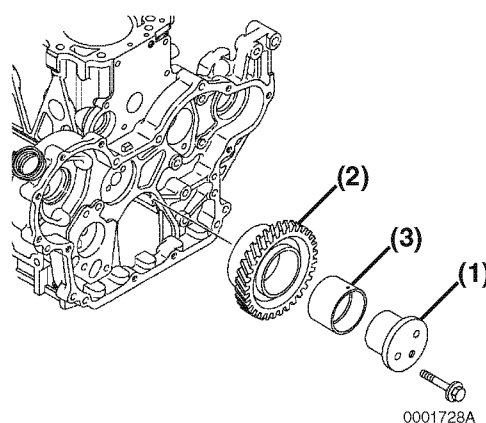

Figure 6-42
- Remove the bolts from the idler gear shaft. Remove the idler gear shaft (**Figure 6-42, (1)**), idler gear (**Figure 6-42, (2)**) and bushing (**Figure 6-42, (3)**).